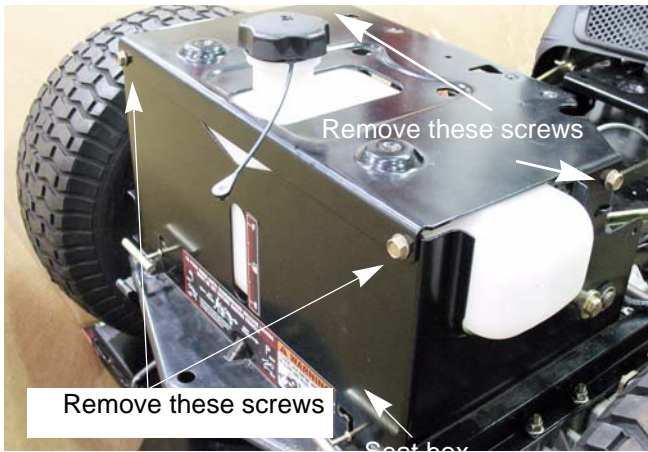

Figure 2.10
5. Remove the two screws and two nuts that fasten the seat box cover. See Figure 2.10.